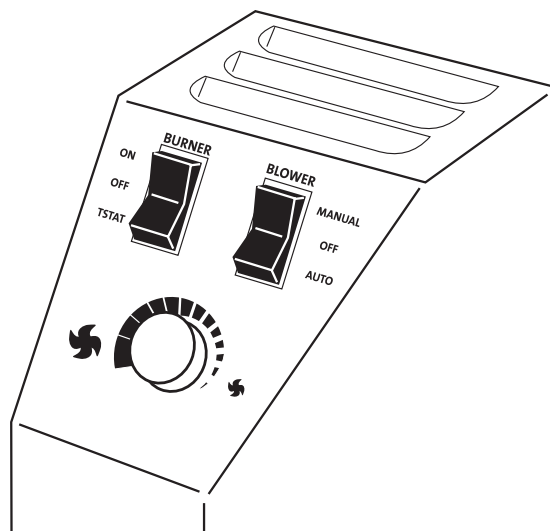

Figure 40. Burner Switch and Optional Blower Controls
- Once the pilot is lit, burner operation is controlled by the rocker switch located at the left rear corner of the stove. Use the T-STAT position for the optional thermostatic or remote control functions. See fig. 40.